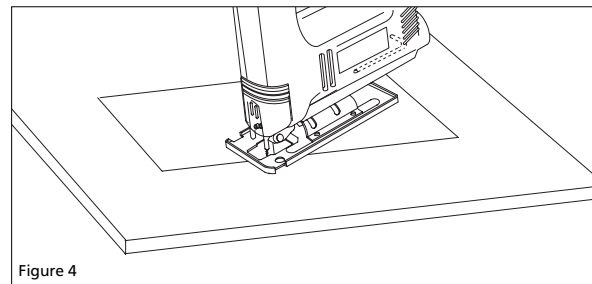

Figure 4
2. Plunge cutting (see Figure 4):